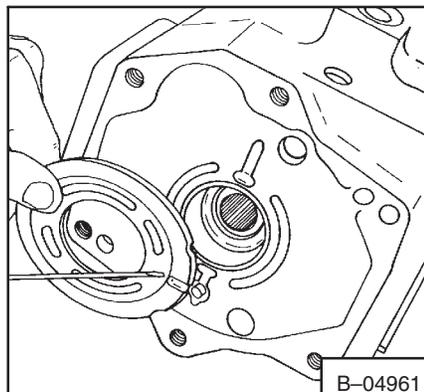

**Fig. 3-147** Installing Pistons
17. Put the spherical washer on top of the three pins (Fig. 3-146). Install the shoe plate and the pistons. Be sure you put marked piston into the marked hole (Fig. 3-147). Be sure all the pistons move freely in the cylinder bores.